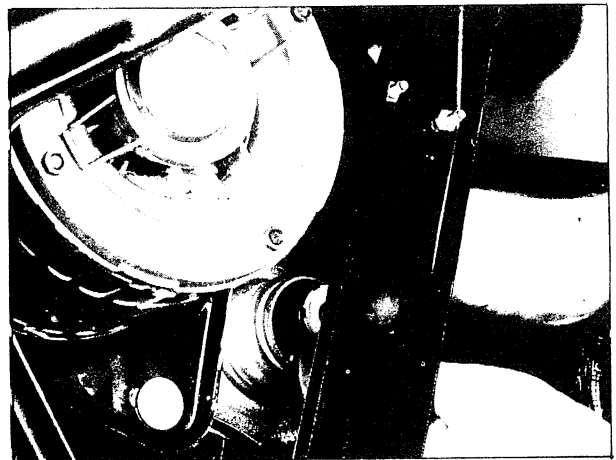

Figure 124A
5. Use new parts where needed. Reassemble clutch spring to latch tube and clutch spring hub. Place this assembly over pinion shaft. Make certain notches in latch tube are keyed over tab in latch plate or slide, *Figure 124A*. The clutch spring should be about $\frac{1}{2}$ " down from the open end of the bearing frame when properly seated. NOTE: If oil does not cover about $\frac{1}{4}$ of the ball bearing, add oil before installing new seal.